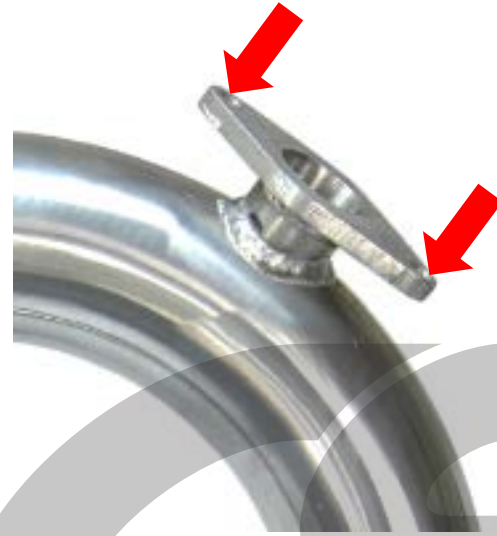

Figure 16a
- c) Mount the BPV onto the cold pipe flange. Install the M6 bolts and nuts through the BPV and holes as shown in **Figure 16a**.